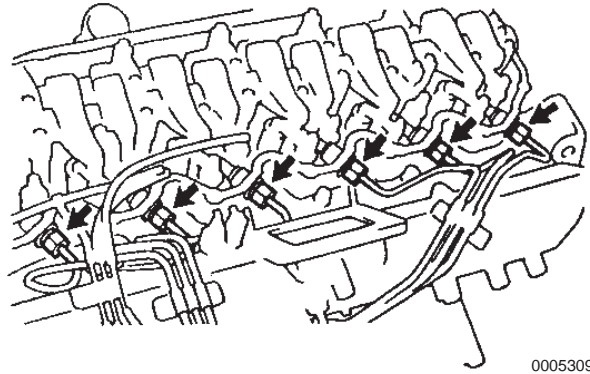

Figure 6-46
7. Tighten the union nut to the fuel injection nozzle and torque to: 250 kgf-cm, 24.52 N-m (18 lb-ft) (**Figure 6-46**).